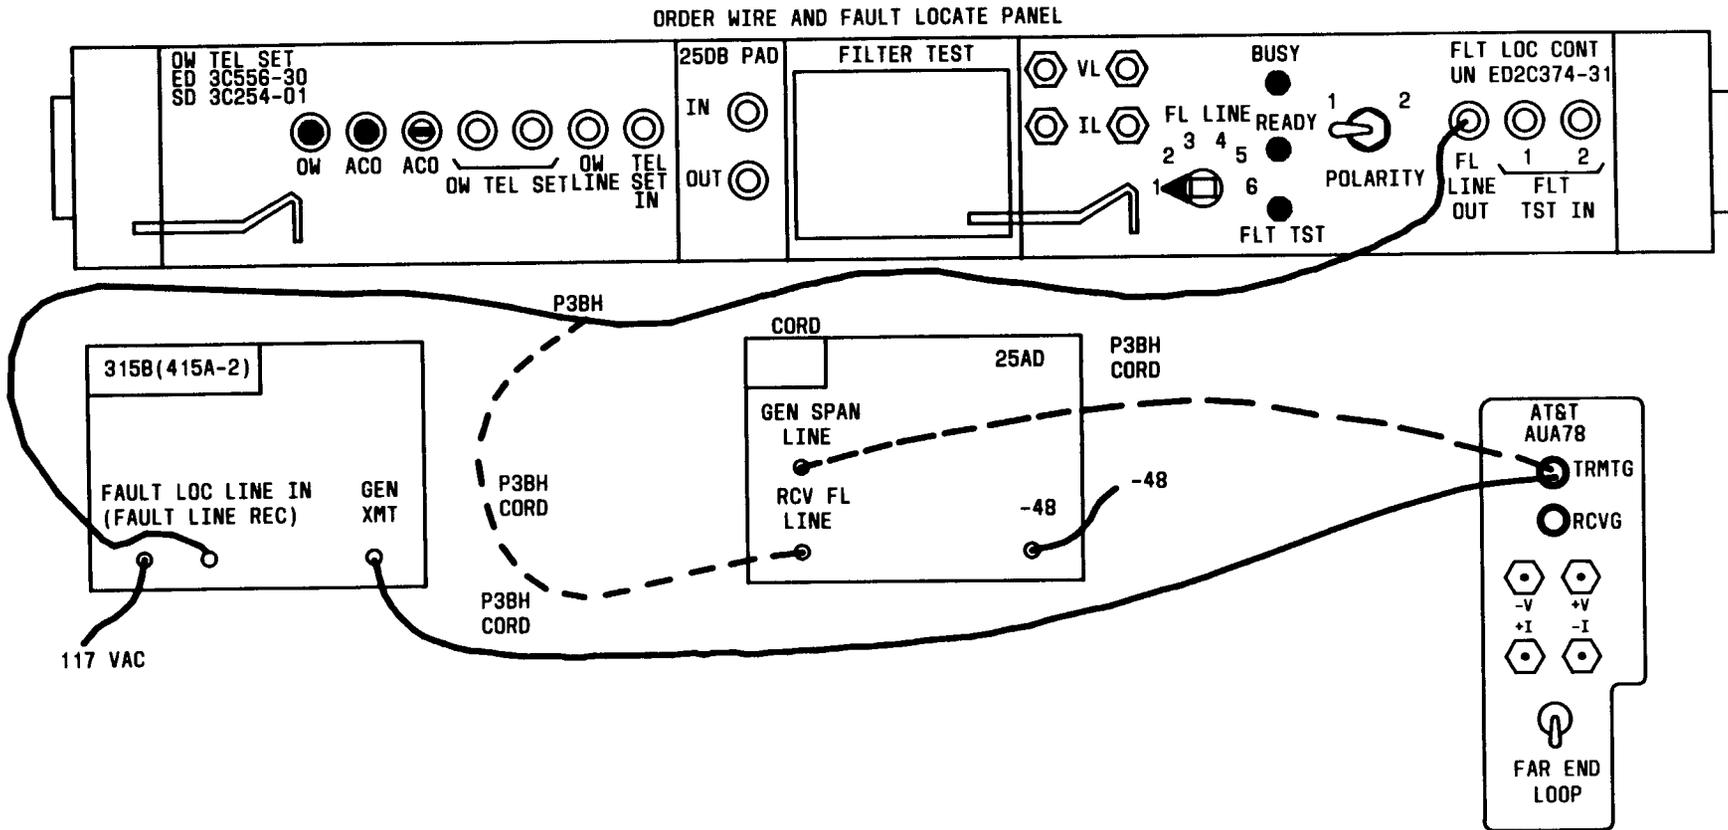

Fig. 1—COT Fault-Locating Configuration
4. Prepare COT for fault locating (FIG. 1).